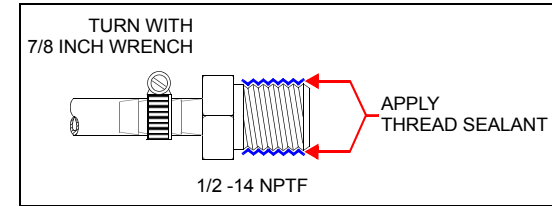

Figure 2: Water Line Connection
- 1) Connect **cooling water out** line. Use thread sealant and 1/2 x 14 FNPT with Maximum pressure = 100 psig/6.9 bars. See *Figure 1A* and *Figure 2*.
- 2) Connect **cooling water in** line. See *Figure 1B* and *Figure 2*.